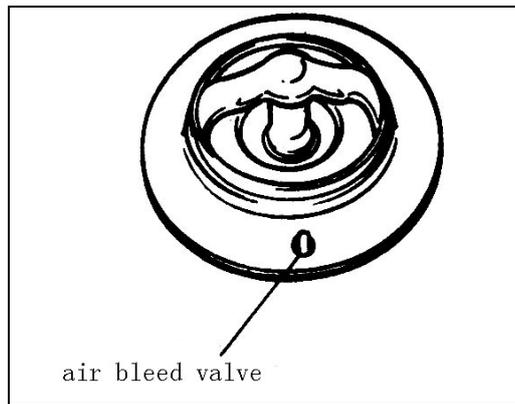

FIG.7-12
- 1) Make sure that the air bleed valve of the thermostat is clear. Should this valve be clogged, the engine would tend to overheat (FIG.7-12)